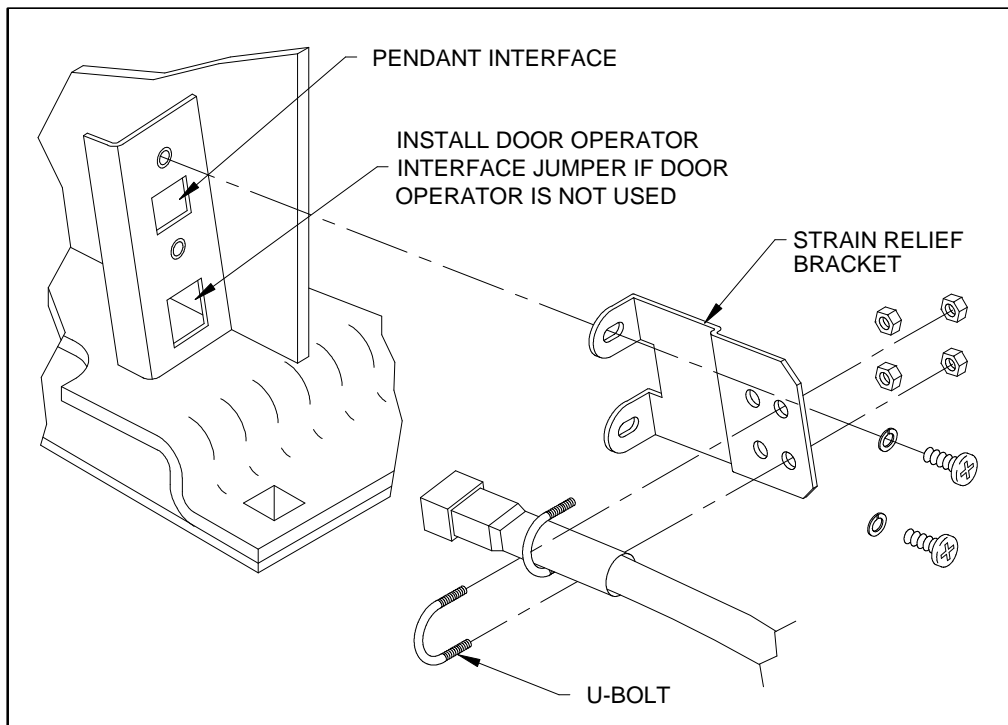

FIGURE 2-12: STRAIN RELIEF KIT
- f. Refer to **Figure 2-12**. Connect appropriate RICON lift control interface to lift and secure control cable to vehicle floor with supplied cable clamp.